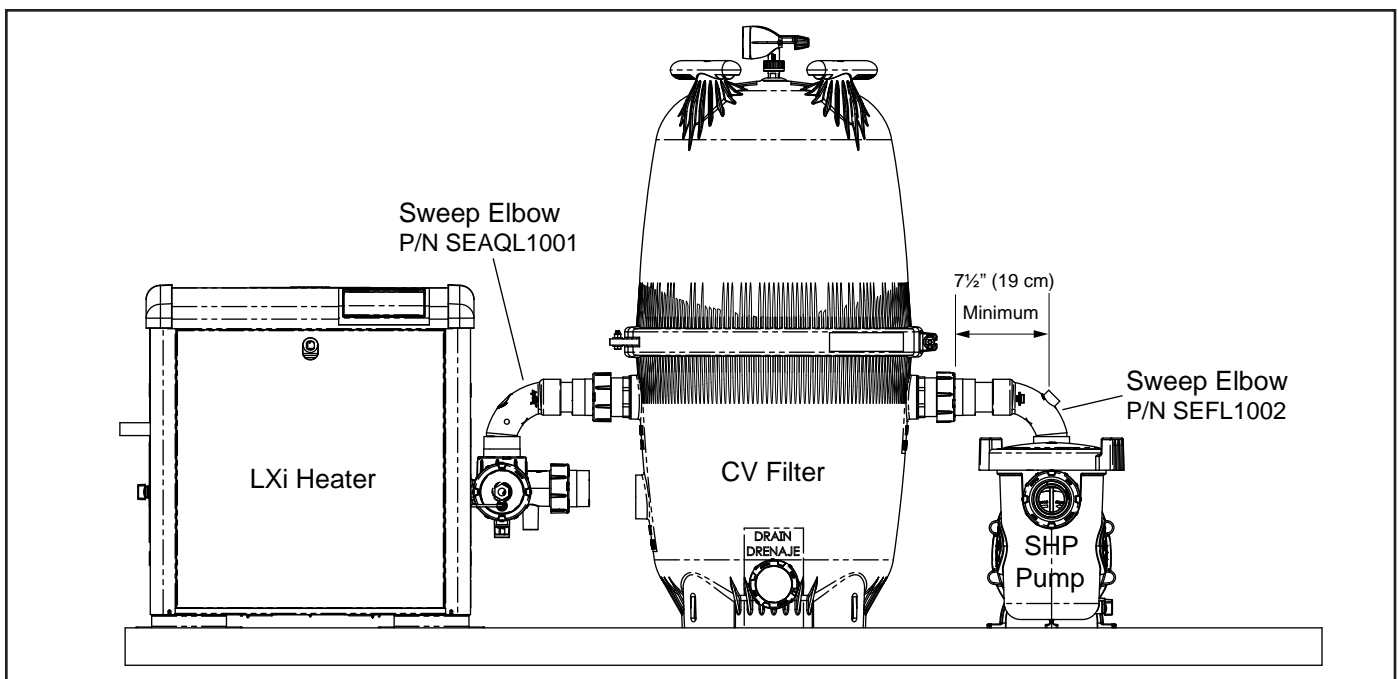

Figure 16. LXI Heater Sweep Elbow Installation
6. Clean the cut ends of the pipe and both ends of the sweep elbow(s) with an appropriate NSF® approved All Purpose cleaner/primer. Glue the sweep elbow(s) onto the cut pipe ends using an appropriate All Purpose NSF approved adhesive/glue. See Figure 16